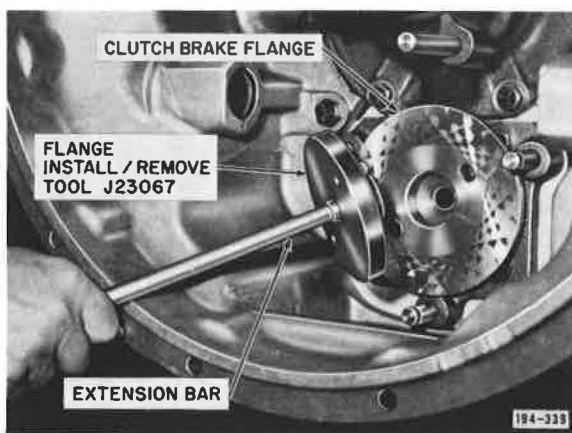

Figure 5-186. Installing Clutch Brake Flange
31. Using tool J-23067, install clutch brake flange as shown in Figure 5-186, then install flange screw (left-hand thread).